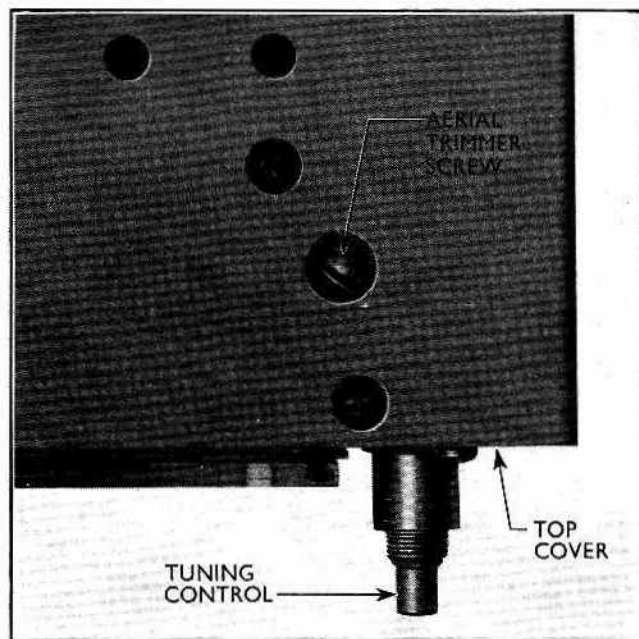

Fig. 599
Note — The aerial trimmer is located in the top of the set, as illustrated in Fig. 599.
- 1 Tune to a station received at the weakest strength at the low wavelength end of the medium wave range, preferably 200 metres or less and, with a small screwdriver, adjust the aerial trimmer, illustrated in Fig. 599, until the station is received at maximum strength. This setting should be adjusted with the aerial fully extended and the set at normal operating temperature.
(b) Partially withdraw the receiver from its aperture, sufficient to gain access to the trimmer screw through the top cover of the receiver, see Fig. 599, and rotate the aerial trimmer screw clockwise or anti-clockwise, as necessary, for maximum signal strength, with the aerial fully extended.